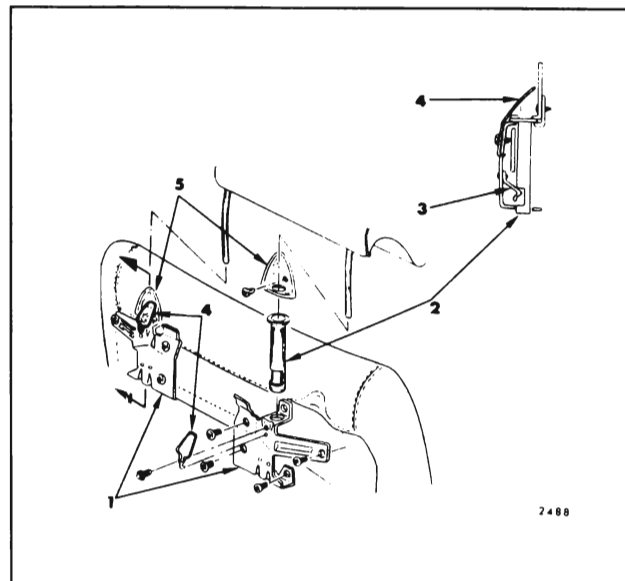

Fig. 15-35 — Strato Seat Back Headrest Supports
All reclining seat backs are equipped with a headrest which is adjustable to four different positions. The Strato headrest is also available as an option on all Strato design seats on either the drivers or passengers seat back. When desired, the headrest can be removed from the seat back by depressing the retaining spring at each headrest support finishing escutcheon (See Fig. 15-35) and pulling each side of headrest up past the locked position.
2. Remove support finishing escutcheon screw and remove escutcheon (Fig. 15-35).
facing rearward (Fig. 15-35). Check for proper operation of headrest.
3. Remove headrest support finishing escutcheon screw and remove escutcheon (Fig. 15-35).
4. Remove four remaining support attaching screws (Fig. 15-35), and remove support from seat back. Where required, remove support guide from support.
5. To install headrest support, reverse removal procedure. Make certain lower end of plastic guide is inserted into hole in bottom of support and that cut out in guide for detent spring is facing rearward (Fig. 15-35). Prior to tightening support attaching screws, install headrest into supports and align support(s) with headrest arm(s); then, tighten support screws.